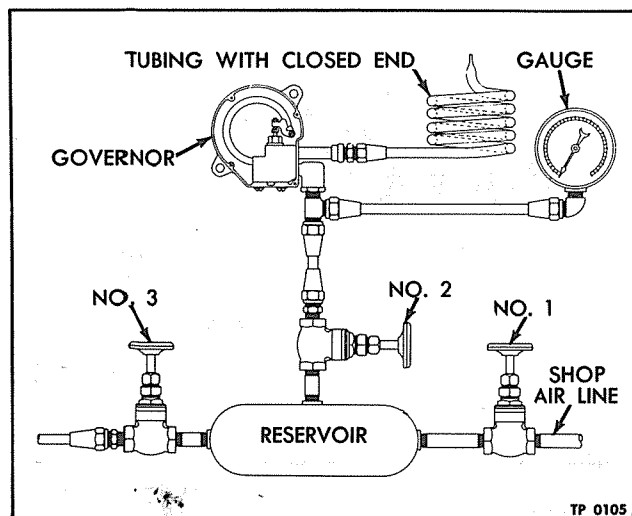

Figure 10—Governor Test Hook-up
on bench is shown in figure 10 and the procedure is as follows:
1. Connect governor as shown in figure 10 with all air cocks closed. Remove cover from governor.
2. Open air cock (1), charging reservoir to full line pressure.
3. Crack air cock (2) and note pressure on gauge when governor cuts out.
4. While governor is in cut-out position, apply soap suds to exhaust port (6). If leakage is sufficient to cause more than a 3-inch diameter bubble in three seconds, upper valve should be resealed.
5. Close air cock (1) and crack cock (3), releasing pressure slowly. Note pressure at which governor cuts in and close cock (3) immediately to retain pressure on governor in cut-in position. Apply soap suds to test lower valve leakage.